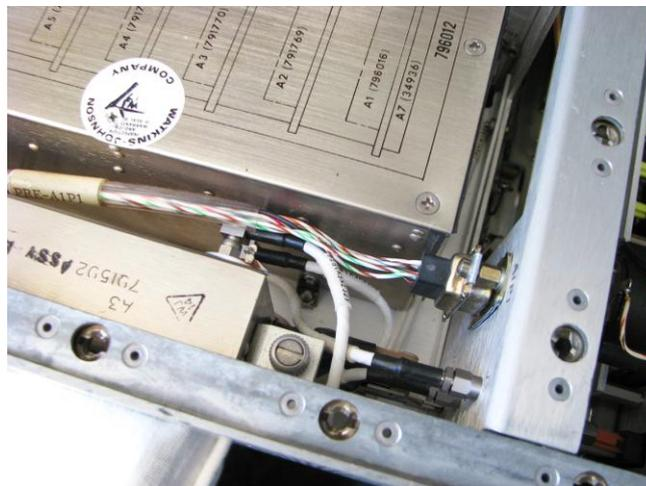

Figure 05: The Preselector 9-pin sub-D plug connected and fastened to its companion socket.
6) Connect the 9-pin sub-D plug that is at the end of the multipole cable coming from the Preselector unit to the 9-pin sub-D socket that had been previously fastened to the receiver chassis (Step 2 above); fasten the two fixing screws tightly enough for a secure pin contact, see Figure 05 below.